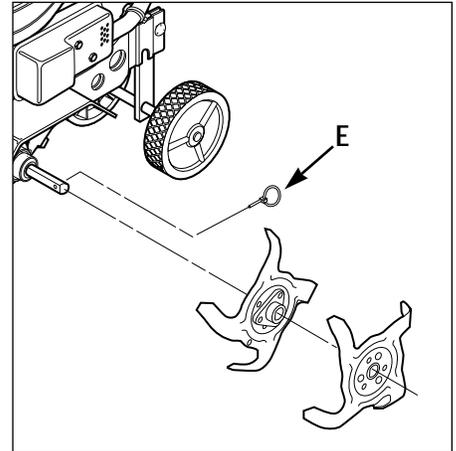

Figure 3: Remove ring lock pins and tines from both sides of the tine shaft. Keep left and right-side tines separated and marked for easier reinstallation.
3. Flip open the ring on the two ring lock pins (E, Figures 3 and 4) and remove the ring lock pin on each tine shaft.
4. It is important for proper tilling performance that the tine sections be later reinstalled in their original positions. Mark the position of each tine section (Left-Outer, Left-Inner, etc.) before removing them. Refer to Figures 3 and 9 for tine position information. See also *Tine Removal and Installation* in Section 5.